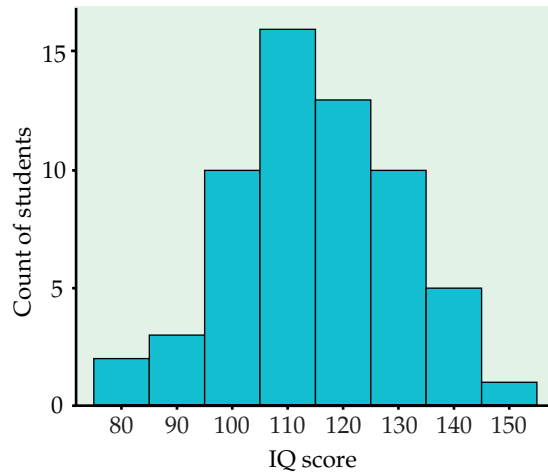

FIGURE 1.7 Histogram of the IQ scores of 60 fifth-grade students, for Example 1.9.
- Draw the histogram. First, on the horizontal axis mark the scale for the variable whose distribution you are displaying. That's IQ score. The scale runs from 75 to 155 because that is the span of the classes we chose. The vertical axis contains the scale of counts. Each bar represents a class. The base of the bar covers the class, and the bar height is the class count. There is no horizontal space between the bars unless a class is empty, so that its bar has height zero. Figure 1.7 is our histogram. It does look roughly "bell-shaped."
Large sets of data are often reported in the form of frequency tables when it is not practical to publish the individual observations. In addition to the frequency (count) for each class, we may be interested in the fraction or percent of the observations that fall in each class. A histogram of percents looks just like a frequency histogram such as Figure 1.7. Simply relabel the vertical scale to read in percents. Use histograms of percents for comparing several distributions that have different numbers of observations.
1.10 Examine the histogram. What does the histogram of IQ scores (Figure 1.7) tell us? **Shape:** The distribution is *roughly symmetric* with a *single peak* in the center. We don't expect real data to be perfectly symmetric, so we are satisfied if the two sides of the histogram are roughly similar in shape and extent. **Center:** You can see from the histogram that the midpoint is not far from 110. Looking at the actual data shows that the midpoint is 114. **Spread:** The spread is from 81 to 145. There are no outliers or other strong deviations from the symmetric, unimodal pattern.